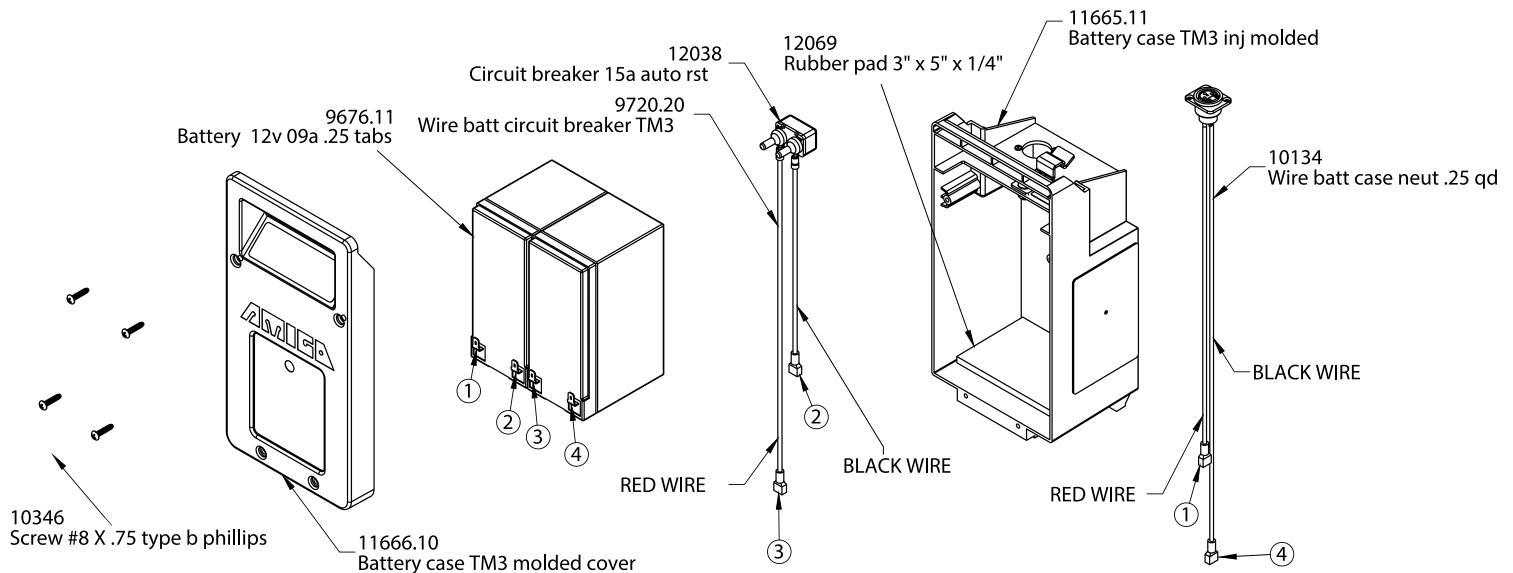

Figure 14
2. Remove the four screws as shown in Figure 14 and remove battery case front cover.
3. Remove red wire (#1 in Figure 14) from red terminal on battery (#1 in Figure 14).
4. Remove red wire (#3 in Figure 14) from red terminal on battery (#3 in Figure 14).
5. Remove black wire (#2 in Figure 14) from black terminal on battery (#2 in Figure 14).
6. Remove black wire (#4 in Figure 14) from black terminal on battery (#4 in Figure 14).
2. Place new batteries into battery case, oriented as shown in Figure 14.
3. Install black wire (#2 in Figure 14) to black terminal on battery (#2 in Figure 14).
4. Install black wire (#4 in Figure 14) to black terminal on battery (#4 in Figure 14).
5. Install red wire (#3 in Figure 14) to red terminal on battery (#3 in Figure 14).
6. Install red wire (#1 in Figure 14) to red terminal on battery (#1 in Figure 14).
7. Install battery front cover and install the four screws as shown in Figure 14.